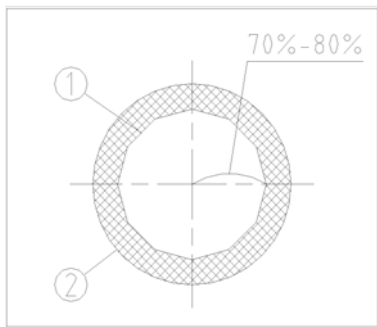

Fig. 19
If your sample has low contrast, it is advised to adjust the condenser aperture diaphragm to be 70%-80% of the N.A. of objective. The eyepiece can be removed to observe this through the eyetube. Adjust the aperture diaphragm adjustment ring (3) until it matches Fig. 19.